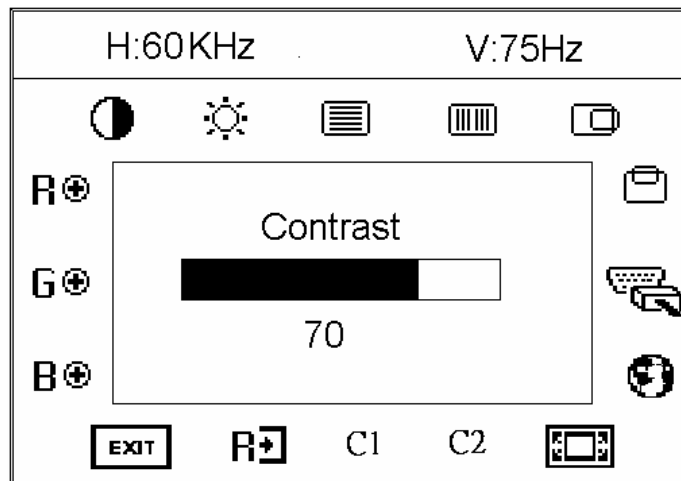

Figure 5 The OSD Message
1. Press the MENU-button to activate the OSD window. See figure 5.
2. Press ▲ or ▼ to select the desired function. See figure 5.